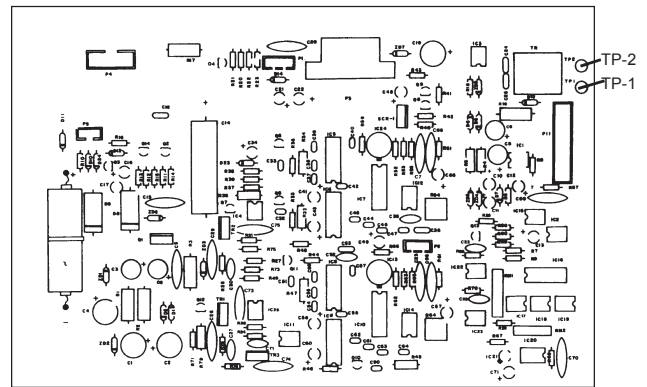

Fig. 4B - Input/Output (I/O) P.C. Board
2. If no reading is displayed, check for arc voltage feedback between terminals TP1 and TP2 test points on the I/O p.c. board (see Fig. 4B). This voltage